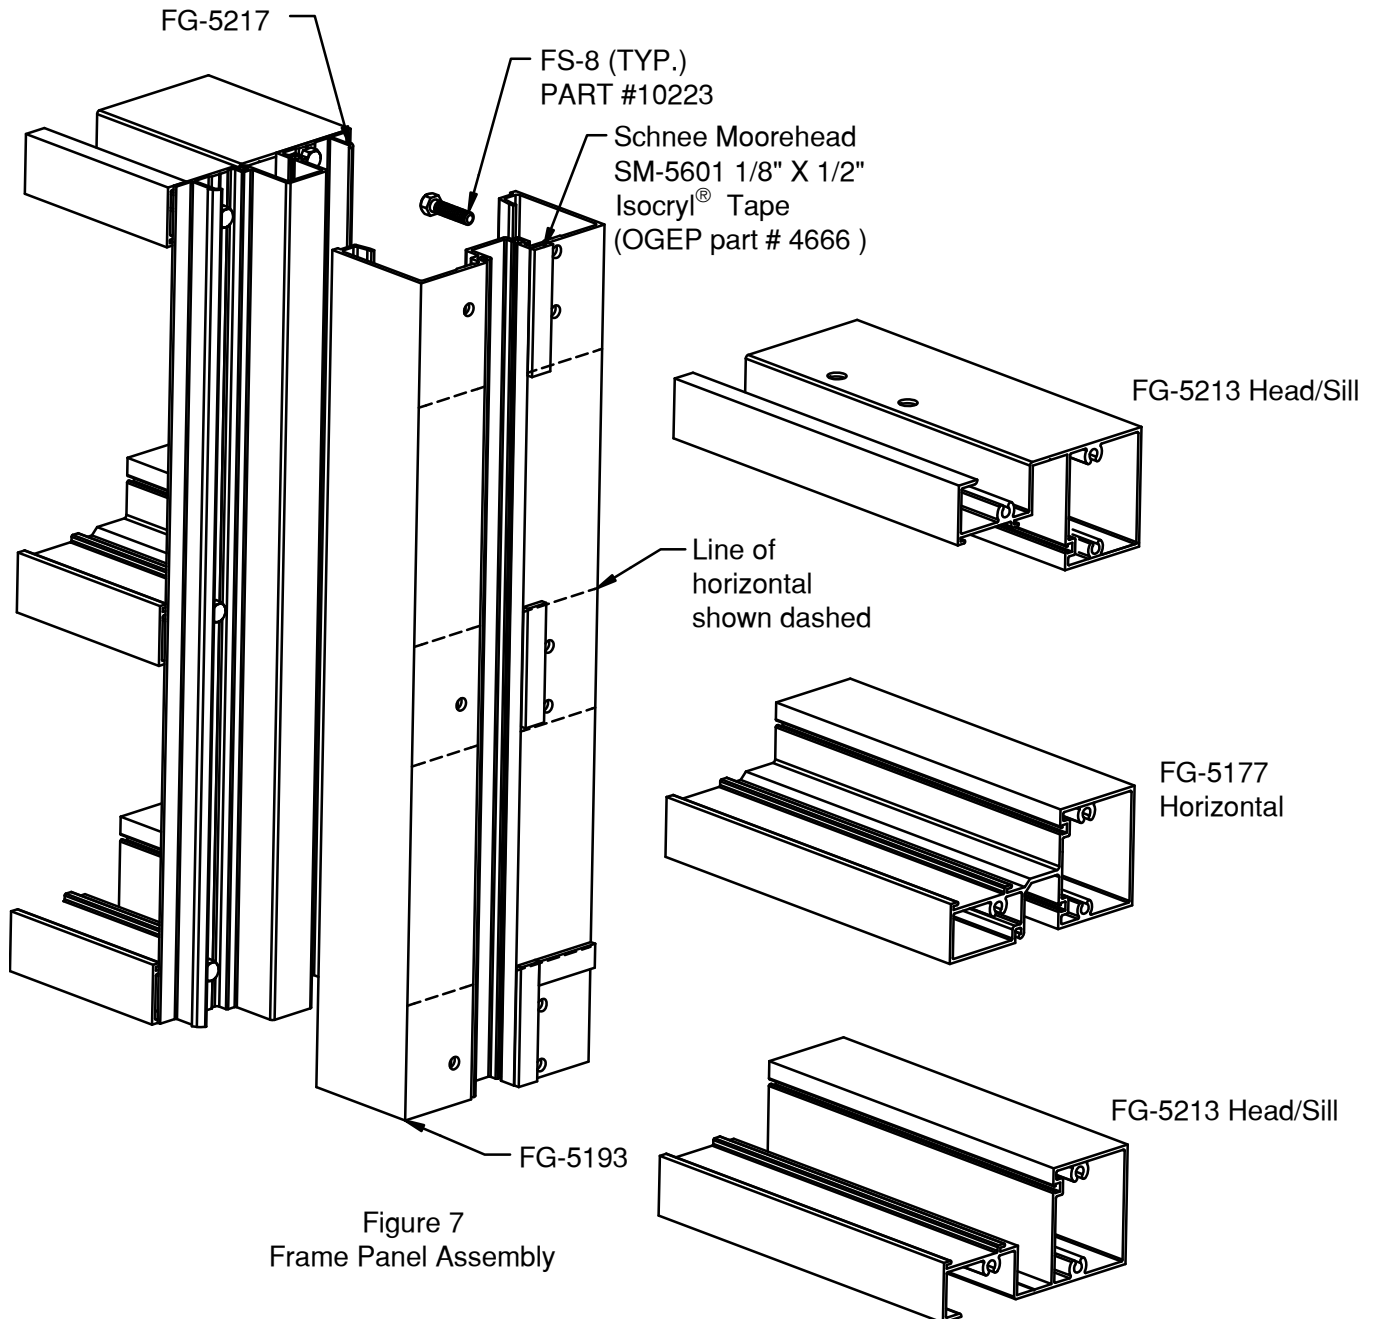

Figure 7
- 2.2.1 Clean framing members at locations where Isocryl® Tape is noted to be attached. SEE FIGURE 7, at tape intersection there should be no gaps.
Note: also install FG-5185 at vertical , if it was not installed prior to attaching horizontals see Figure 7 on Page 12 .